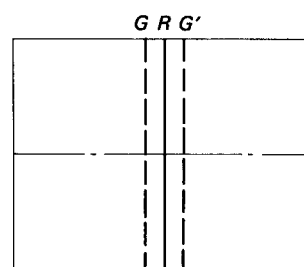
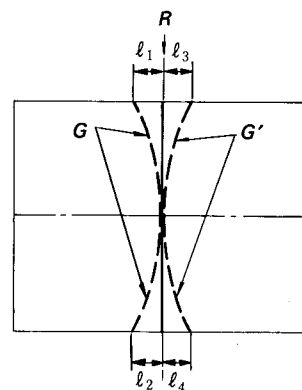

Fig. 3-27
Fig. 3-28
- 4) Adjust RV5303 (H. SKEW <G>) so that the green vertical center line is parallel with the red vertical center line (Fig. 3-27) or " ℓ_1 " (" ℓ_3 ") is equal to " ℓ_2 " (" ℓ_4 ") (Fig. 3-28).
- 5) A) When the green center line is positioned as shown in Fig. 3-27;
- B) When the green center line is positioned as shown in Fig. 3-28;
- ① Adjust RV5304 (H. BOW <G>) so that the vertical center line is parallel with the red vertical center line.
- ② Perform the step A).